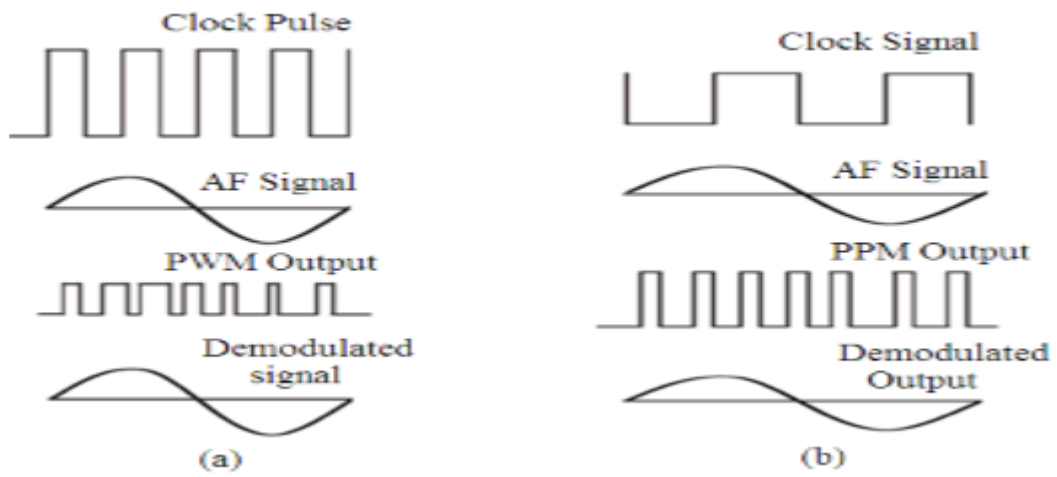

Fig8. Modulation and Demodulation of (a) PWM and (b) PPM
- This is then followed by a differentiator which generates +ve spikes for PWM signal going from High to Low and -ve spikes for Low to High transition. The spikes generated are shown in the fourth waveform of Fig8.
- Thus PPM signal is generated at the output which is shown in the fifth waveform of Fig8. where pulse position carry the message information.
- The modulation and demodulation waveforms of PWM and PPM signals are shown in Fig8.